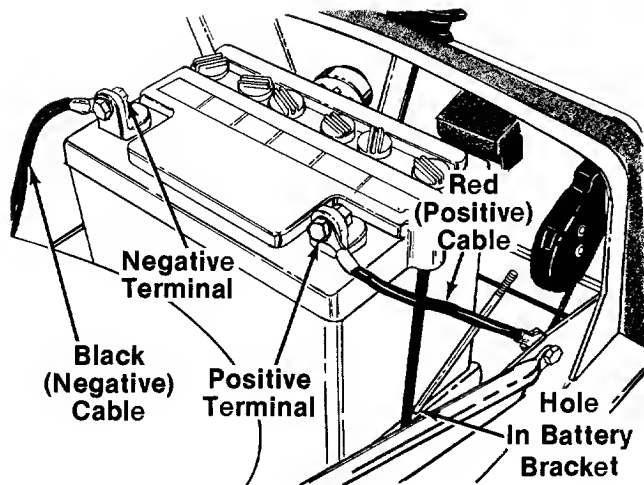
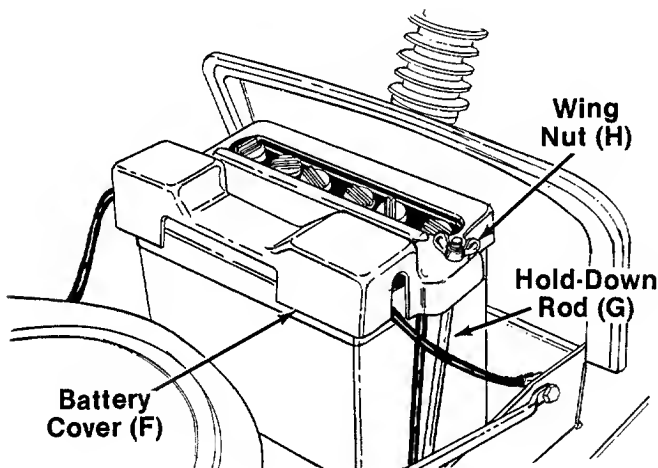

FIGURE 6.
FIGURE 7.
See figure 6.
3. Slide the square nut (provided with battery hardware) into the positive (+) terminal. Place the positive (heavy red wire) cable on the positive terminal. Secure with screw provided. See figure 6.
5. Hook one hold-down rod (G) into the hole in the edge of the battery bracket beside the battery. See figure 6. Place the battery cover (F) in position over the hold-down rod. Secure with wing nut (H). Attach other hold-down rod to the other side of battery cover in the same manner. See figure 7.